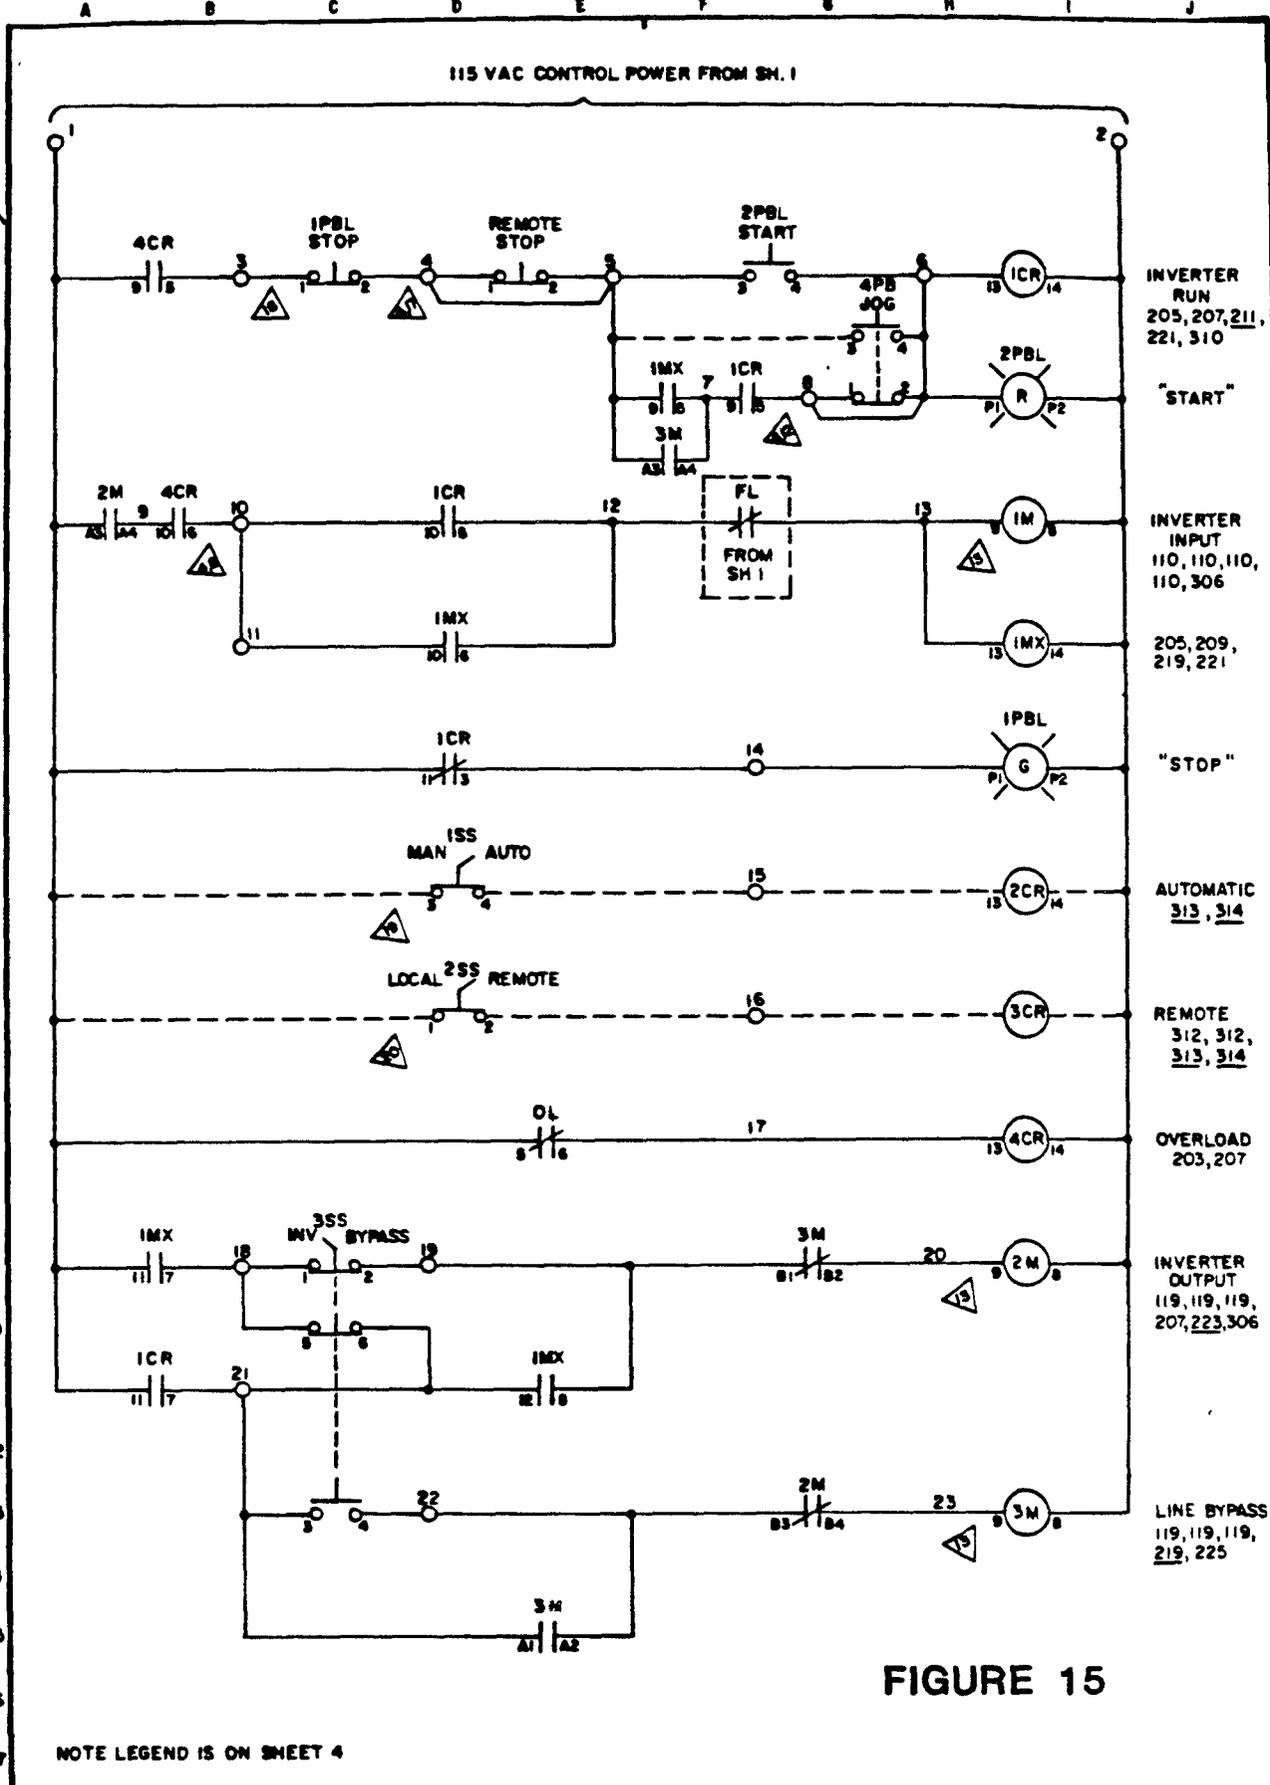

FIGURE 15
Each unit is shipped with wiring diagrams that show interconnections necessary. A standard unit with operator controls in the door, simply requires connecting input power to the inverter and output to the motor. A remote operator station and other options require more interconnections. Figures 12 and 13 show diagrams that would be received with the standard unit. Bypass option diagrams are shown in Figures 15 and 16.
- 20 THIS CIRCUIT IS USED FOR SELECTION OF 'LOCAL' OR 'REMOTE' FREQUENCY REFERENCE POTENTIOMETERS OR TWO(2) REMOTE REFERENCE SIGNALS CHECK SALES ORDER FOR OPTION 20
- 21 LOW SIGNAL HAS A 75mA CONTINUOUS CURRENT RATING. MOUNT STOP RELAY IN CLOSE PROXIMITY TO TB3. RELAY COIL IS RATED 24 VDC. SEE FIGURE 15, PAGE 23, OR FIGURE 15 PAGE 24 FOR EXPLANATION OF LOW SIGNAL.